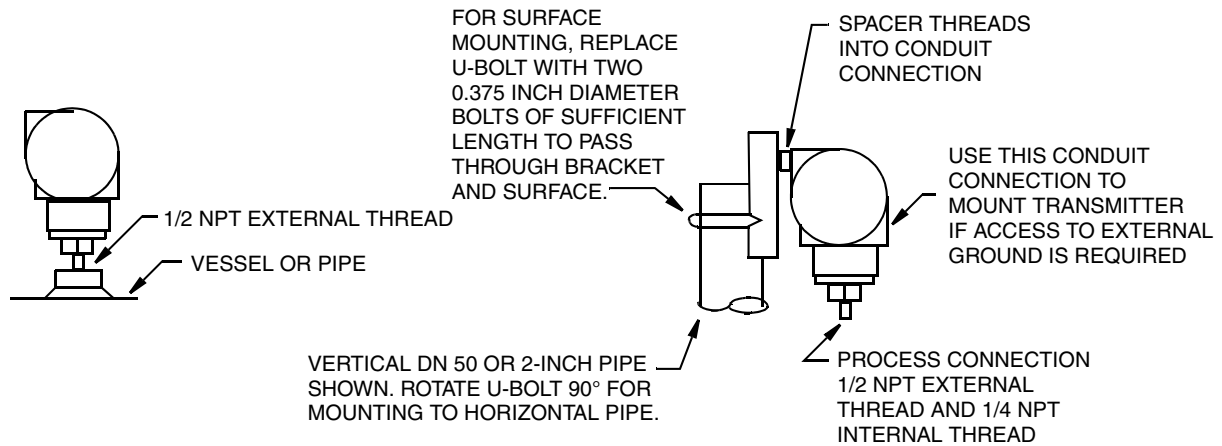

Figure 3. IAP10 and IGP10 Transmitter Mounting
The IAP10 and IGP10 transmitters with the 1/2 NPT external thread can be directly connected to the process or mounted to a vertical or horizontal pipe or a surface using the optional mounting set. See Figure 3.
2. Do not directly mount IGP10 transmitters with Span Limit Code G or H. Use the optional mounting set as shown in Figure 3.